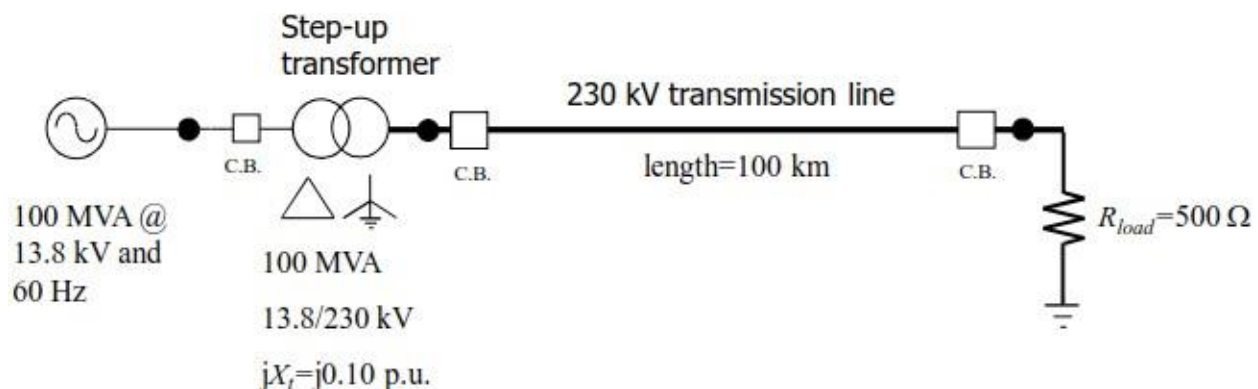
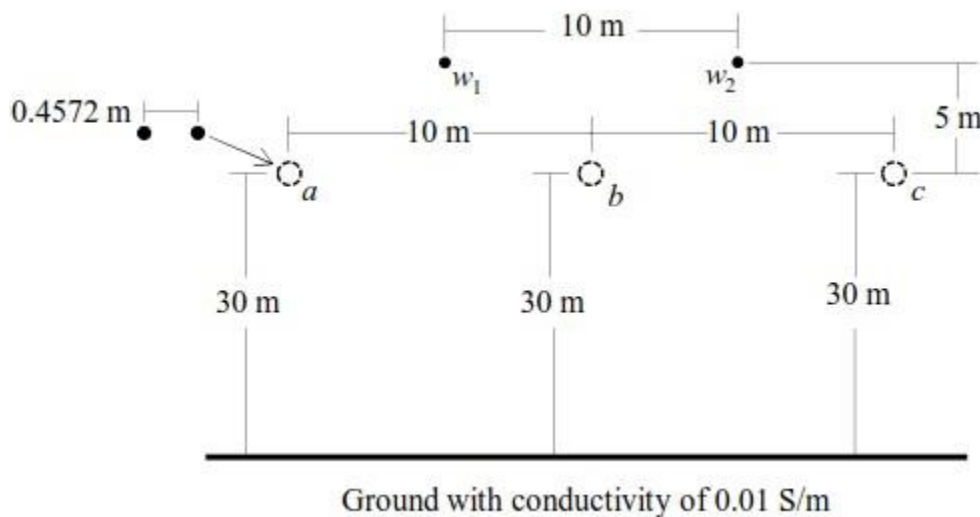

Fig. 1. The studied transmission circuit
Fig. 2
The three-phase power transmission circuit represented by its one-line diagram in Fig. 1, undergoes different kinds of short-circuit faults at the receiving end of the transmission line, where a resistive load of 500 Ohms connects. The load is fed from an equivalent synchronous generator through a transmission line and transformer, with the equivalent generator assumed to behave like a voltage source (constant voltage and frequency). The three-phase transformer is delta-star connected with its star point solidly grounded. The positive, negative and zero sequence impedances of the transmission line require calculation – the transmission line configuration and basic data are given in Fig. 2 and in table I.
and selecting load, examples, tutorial and simpleac. Notice that the one-line diagram of the circuit corresponds (almost) to the one-line diagram in Fig. 1.
- g. Select a suitable base voltage and base power to express the transmission line sequence parameters and the resistive load in the power transmission circuit in Fig.1, on a per-unit basis.
- h. Carry out a power flow solution for the power transmission circuit in Fig. 1 (using the power flow computer program provided).
- j. Determine 10% fixed series compensation for the transmission line as shown in the figure 2. The percentage series compensation means the percentage reactance compensated by the series capacitor bank from the total line reactance.
The transmission line configuration and basic data for the 230 kV transmission line is given below: Each phase (a,b,c) is made up of two identical conductors (bundled) of the type Chukar and separated by a distance of 45.72 cm. The transmission line has two over-head ground wires of ordinary steel $\frac{1}{2}$ inch in diameter. They are placed in the tower on top of the phase conductors, as illustrated in Fig. 2. The transmission line is 100 km long and operating at 60 Hz. The ground under the conductors is assumed to have constant conductivity of 0.01 S/m throughout the entire length of the line.